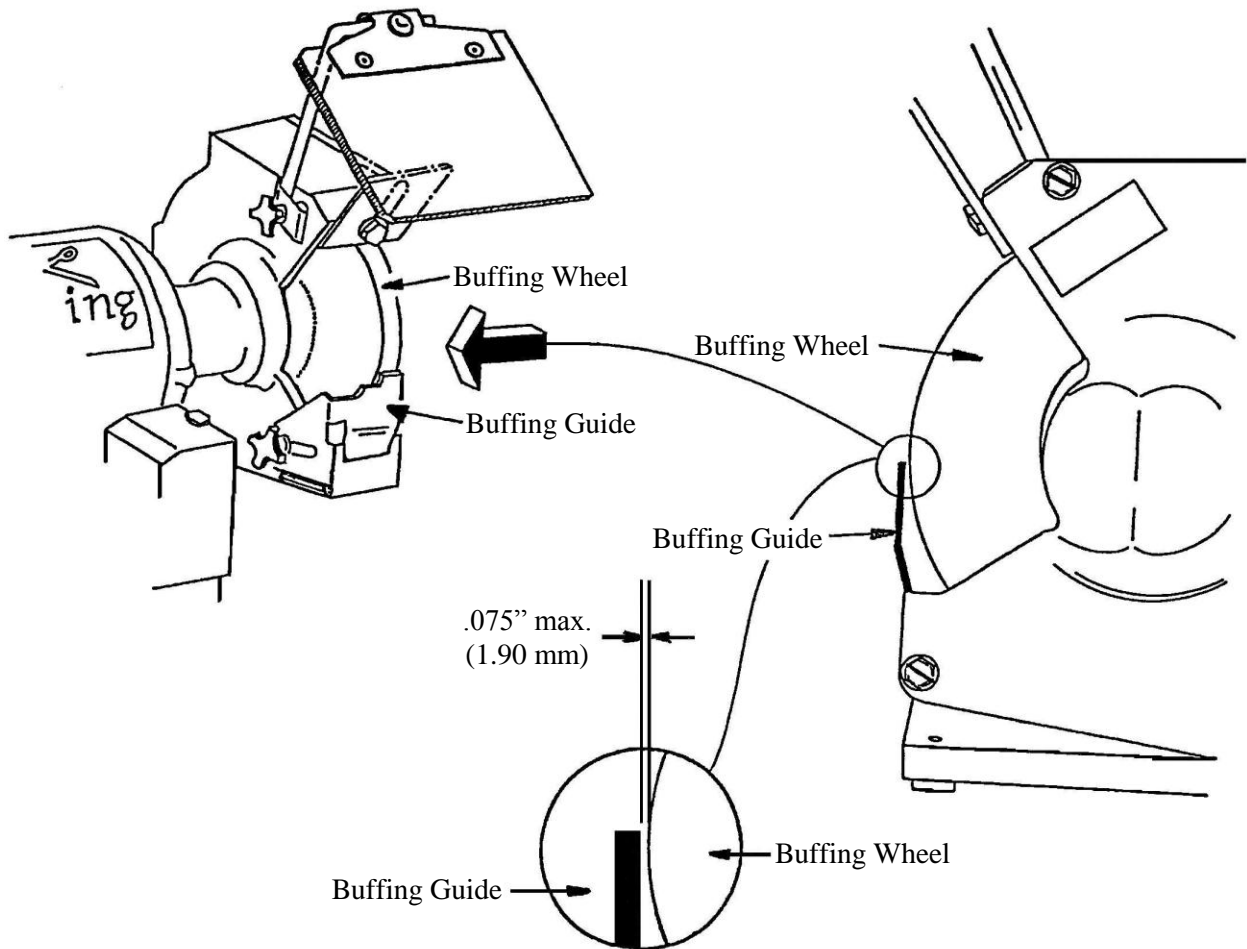

Figure 8
8.3.7 Buffing Wheel Guide Adjustment (See Figure 8)